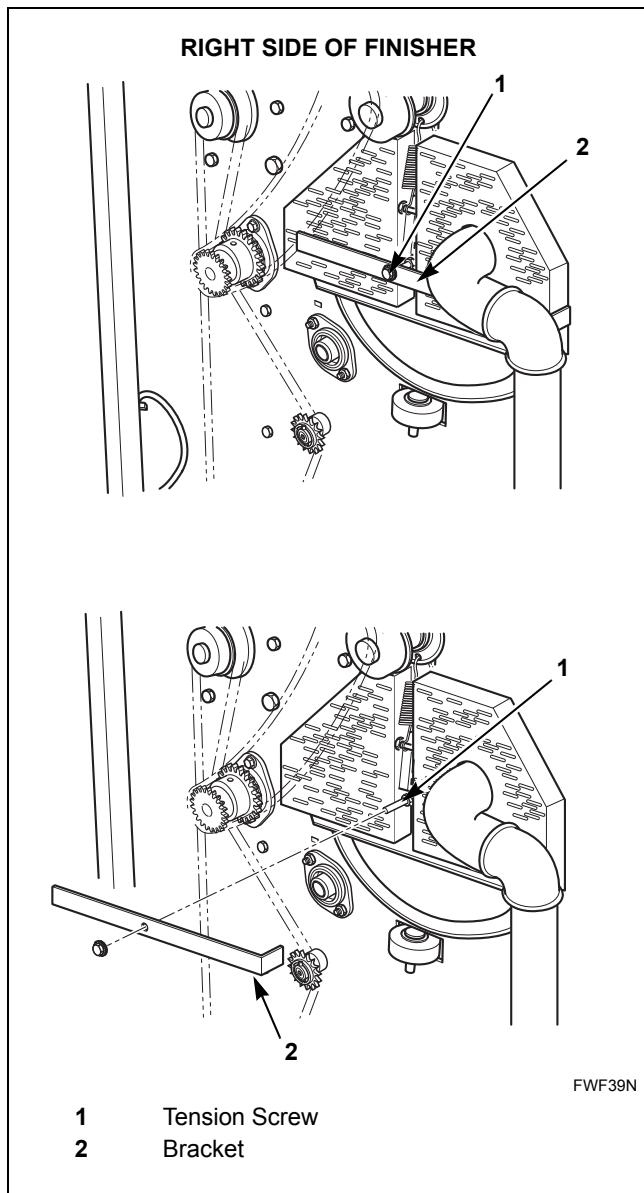

Figure 29
2. Locate the return ribbon tension systems on each side of the finisher. Refer to *Figure 29*.